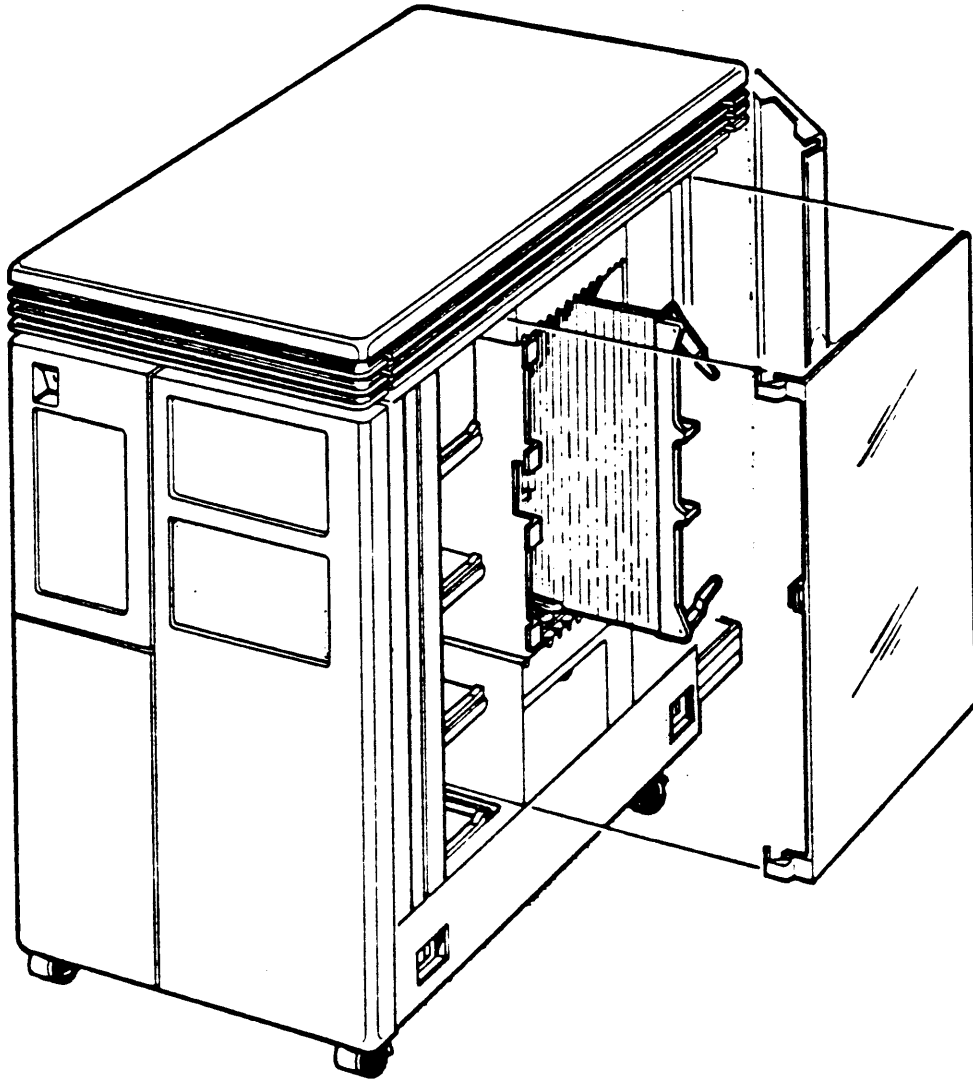

Figure 9-16 Module Removal
2. Remove the card-cage door by releasing the two clasps at the front end of the door and swinging the door open (see Figure 9-16).
3. Slide the module partially out of the backplane (figure 9-16).